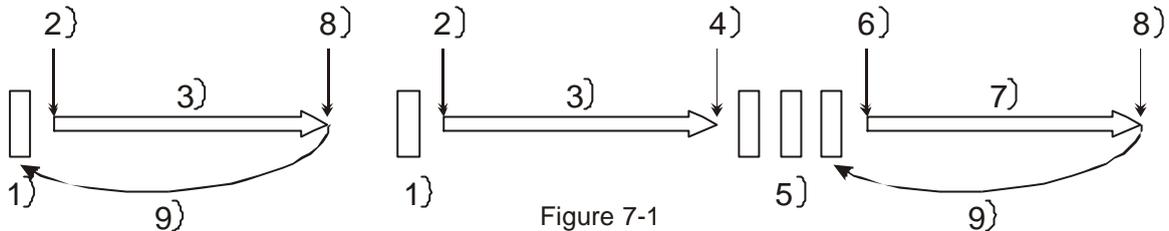

Figure 7-1
- Figure 7-1 shows the relationship between the play and back cue operations.